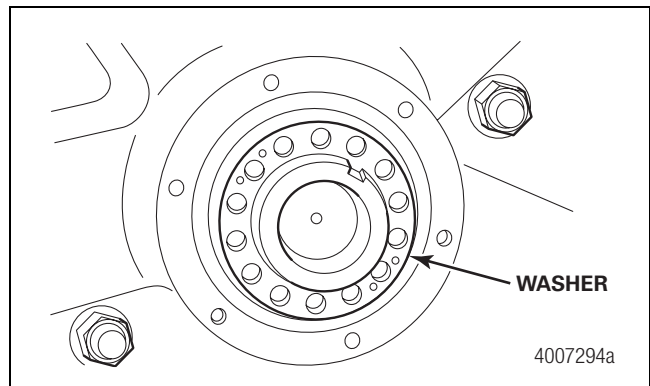

Figure 8
- C. Remove the lock washer. Figure 8.